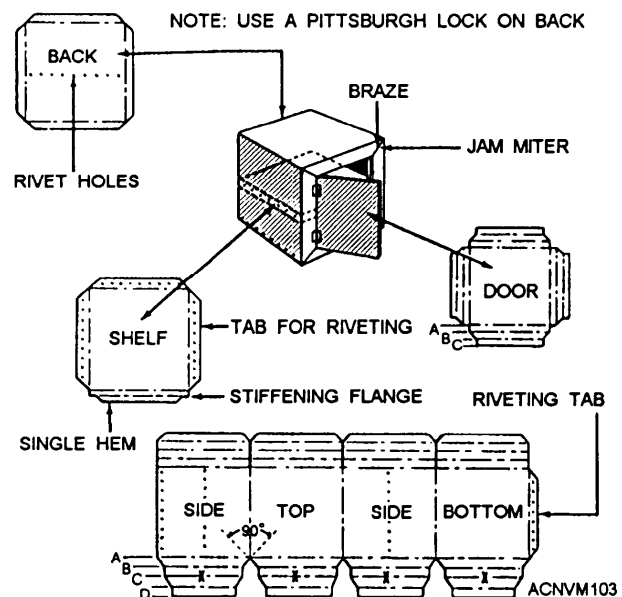

Figure 12-103.—Fabricating a locker.
Figure 12-103 shows a locker that has one riveted shelf. The locker is assembled by using Pittsburgh lock seams and rivets. The door is flush to the front side and is swung on exposed hinges. A hasp and staple are used as a securing device.
1. The size of the door in its relation to the size of the locker. (The difference between the size of the door and the size of the locker controls dimension A in fig. 12-103.)
2. The thickness of the door. (This controls dimension B in fig. 12-103.)
3. The width of the stop (C in fig. 12-103). Normally the stop is about 3/8 inch to 1/2 inch in width.
4. The allowance for the single hem (D in fig. 12-103). This allowance will be slightly less than that of the stop.
1. Transfer the lines of the jamb (indicated by X in fig. 12-103) to the reverse side of the sheet.
4. Remove the sheet from the brake and turn it over so that the layout lines are up. Reinsert the sheet in the brake and form the flange for the stop (C in fig. 12-103).
5. Remove the sheet again. This time, with the layout lines down, insert the sheet in the brake and form the depth of the jamb (B in fig. 12-103).
6. Slide the sheet out to the next line and form A (fig. 12-103).